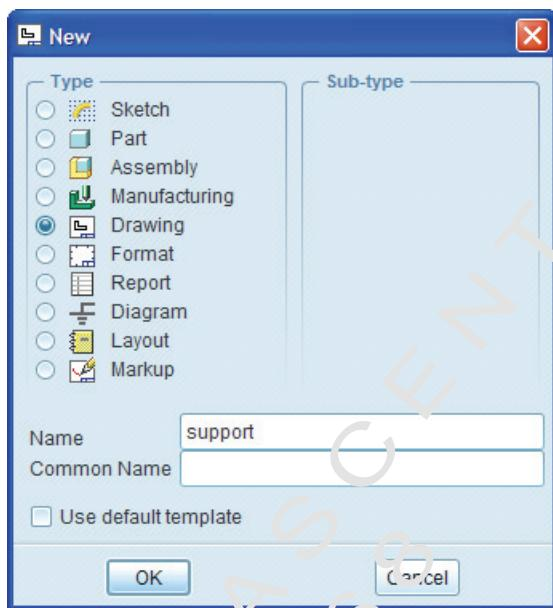

Figure 1–52
4. Clear the **Use Default Template** option to create an empty drawing. The New dialog box appears as shown in Figure 1–52.